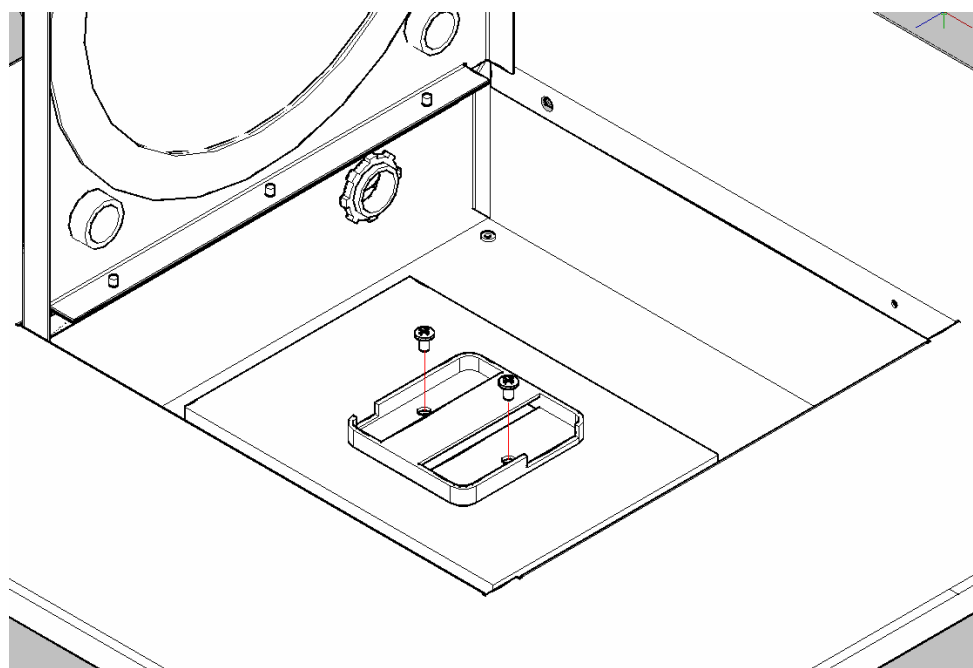

Figure 2 – Mounting of Aruba AP-120-MNT in Oberon 1055-AN enclosure
Step 2 – Open the locking door and place the Aruba Mounting Plate (Aruba Part Number AP-120-MNT, purchased separately from Aruba) on the enclosure's mounting plate as shown with the wider slotted wall facing the lock side of the enclosure and the narrower slotted wall facing the hinged side of the enclosure. Secure the Aruba mounting in place using two (2) #10-32 screws (Ref. Figure 2).